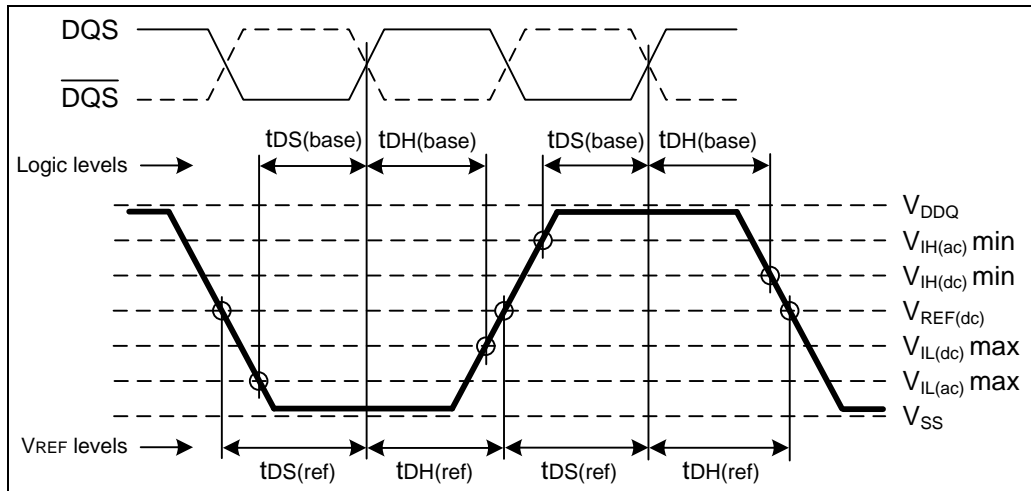

Figure 19 – Differential input waveform timing – tDS and tDH
16. Input waveform timing  $t_{DS}$  with differential data strobe enabled  $MR[\text{bit}10]=0$ . There are two sets of values listed for  $DQ$  and  $DM$  input setup time:  $t_{DS}(\text{base})$  and  $t_{DS}(\text{ref})$ . The  $t_{DS}(\text{ref})$  value (for reference only) is equivalent to the baseline value  $t_{DS}(\text{base})$  at  $V_{REF}$  when the slew rate is 2.0 V/nS, differentially. The baseline value  $t_{DS}(\text{base})$  is the JEDEC defined value, referenced from the input signal crossing at the  $V_{IH}(\text{ac})$  level to the differential data strobe crosspoint for a rising signal, and from the input signal crossing at the  $V_{IL}(\text{ac})$  level to the differential data strobe crosspoint for a falling signal applied to the device under test.  $DQS$ ,  $\overline{DQS}$  signals must be monotonic between  $V_{IL}(\text{dc})_{\text{max}}$  and  $V_{IH}(\text{dc})_{\text{min}}$ . See Figure 19. If the differential  $DQS$  slew rate is not equal to 2.0 V/nS, then the baseline values must be derated by adding the values from table of DDR2-667, DDR2-800 and DDR2-1066  $t_{DS}/t_{DH}$  derating with differential data strobe (page 60).
17. Input waveform timing  $t_{DH}$  with differential data strobe enabled  $MR[\text{bit}10]=0$ . There are two sets of values listed for  $DQ$  and  $DM$  input hold time:  $t_{DH}(\text{base})$  and  $t_{DH}(\text{ref})$ . The  $t_{DH}(\text{ref})$  value (for reference only) is equivalent to the baseline value  $t_{DH}(\text{base})$  at  $V_{REF}$  when the slew rate is 2.0 V/nS, differentially. The baseline value  $t_{DH}(\text{base})$  is the JEDEC defined value, referenced from the differential data strobe crosspoint to the input signal crossing at the  $V_{IH}(\text{dc})$  level for a falling signal and from the differential data strobe crosspoint to the input signal crossing at the  $V_{IL}(\text{dc})$  level for a rising signal applied to the device under test.  $DQS$ ,  $\overline{DQS}$  signals must be monotonic between  $V_{IL}(\text{dc})_{\text{max}}$  and  $V_{IH}(\text{dc})_{\text{min}}$ . See Figure 19. If the differential  $DQS$  slew rate is not equal to 2.0 V/nS, then the baseline values must be derated by adding the values from table of DDR2-667, DDR2-800 and DDR2-1066  $t_{DS}/t_{DH}$  derating with differential data strobe (page 60).